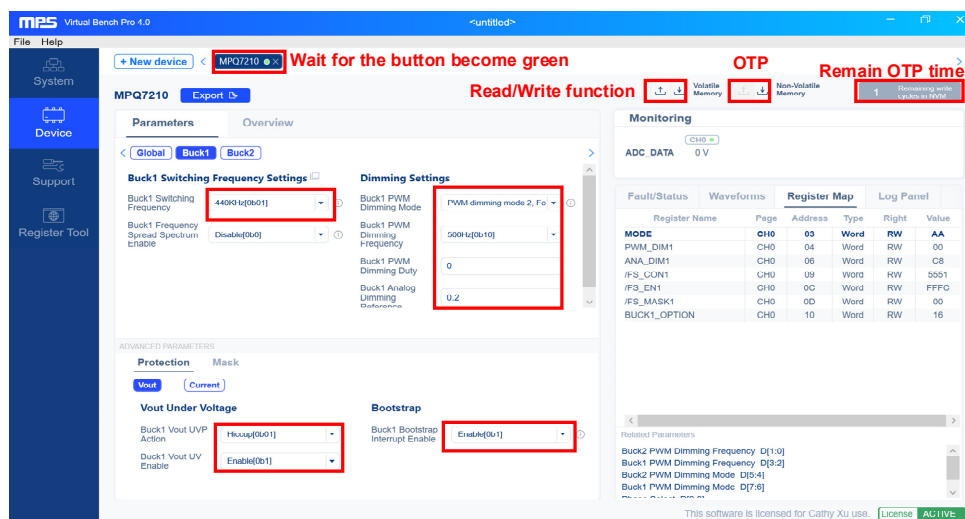

Figure 11: The OTP Process in Virtual Bench Pro 4.0
- Once the register values have been changed, click the “OTP” button to start the OTP process (see Figure 11 on page 10).